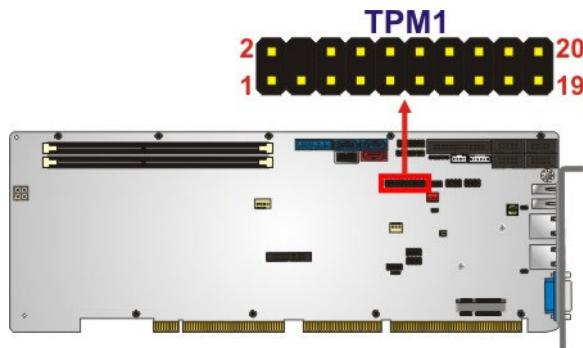

Figure 3-28: TPM Connector Location
3.2.27 TPM Connector**CN Label:** TPM1**CN Type:** 20-pin header, p=2.54 mm**CN Location:** See Figure 3-28**CN Pinouts:** See Table 3-30